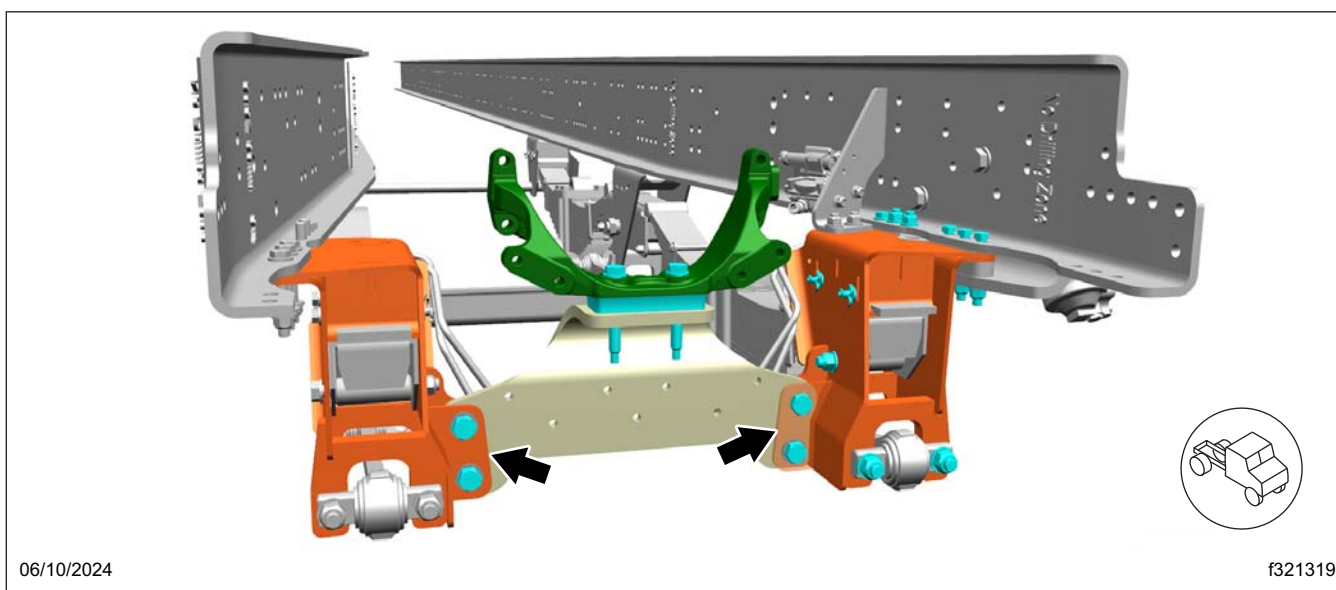

Fig. 3, Engine Support Fasteners
4. Loosen the engine support fasteners, but **do not** remove them yet. See Fig. 3.